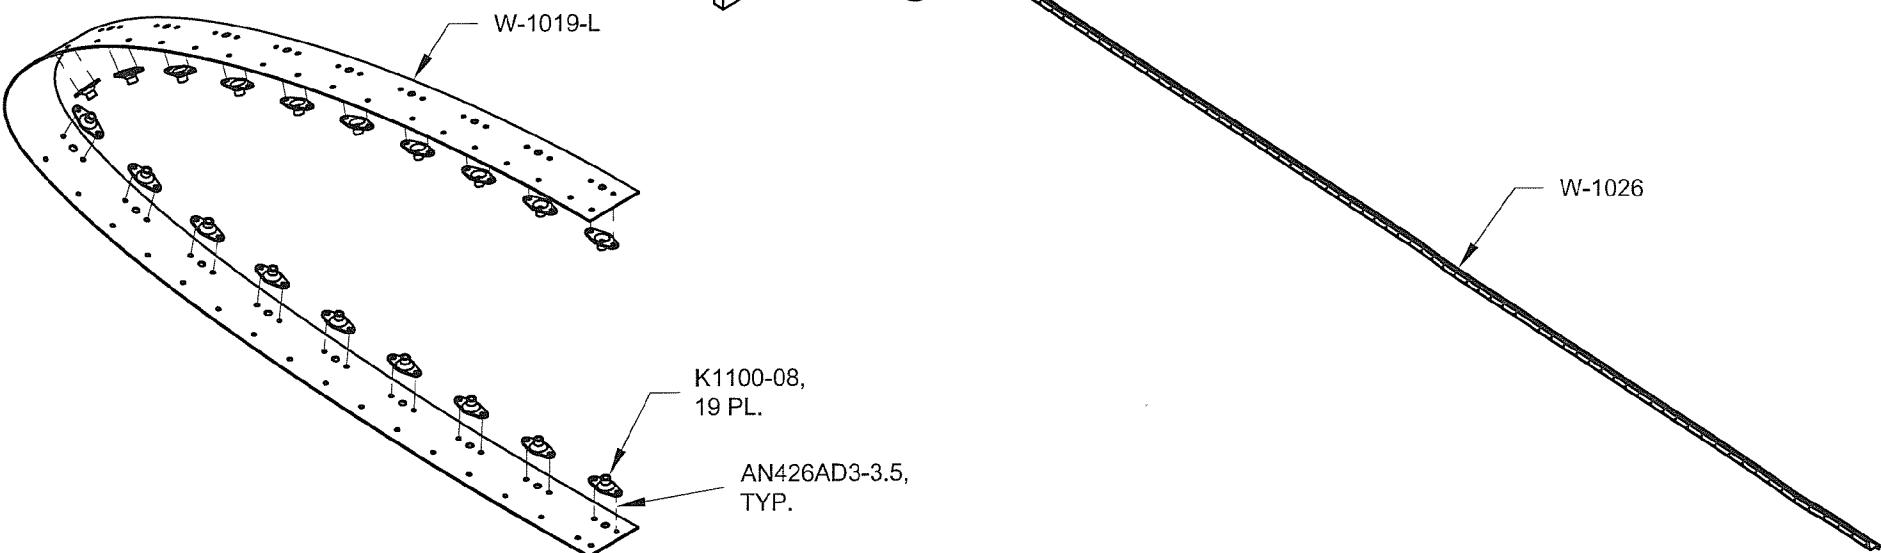

FIGURE 2: NUTPLATE TO SPLICE STRIP ATTACH
Step 11: Rivet the nutplates onto the W-1019-L Splice Strip as shown in Figure 2.
Step 3: Rivet the W-1009-R Leading Edge Rib to the main spar and outboard wing rib as shown in Figure 2.
Step 4: Rivet the leading edge ribs to the main spar assembly per the rivet call-outs shown in Figure 2.